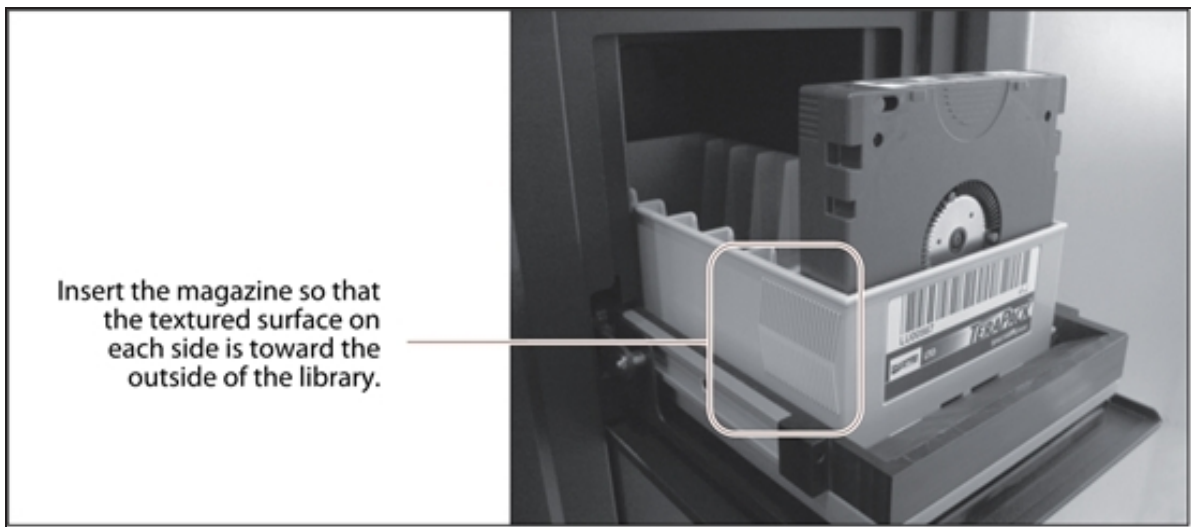

Figure 55 Insert a magazine into the TAP, making sure that it is correctly oriented.
3. Insert the magazine into the tray on the open TAP with the textured surface on each side toward the outside of the library, as shown in Figure 55 on page 112.